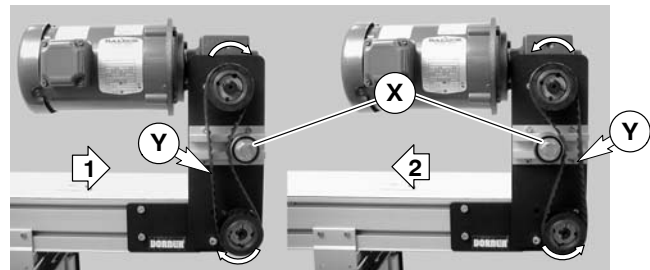

Figure 10
- Wrap timing belt (Q) around driven pulley (M) and drive pulley (J). Install driven pulley (M) onto conveyor shaft.
- Depending on conveyor belt travel (direction 1 or 2), locate timing belt tensioner (X of Figure 10) as shown. Tension timing belt to obtain 1/8" (3 mm) deflection for 6 lb (3 Kg) of force at timing belt mid-point (Y). Tighten tensioner screw to 110 in-lb (12 Nm).
3. Depending on conveyor belt travel (direction 1 or 2), locate timing belt tensioner (X of Figure 10) as shown. Tension timing belt to obtain 1/8" (3 mm) deflection for 6 lb (3 Kg) of force at timing belt mid-point (Y). Tighten tensioner screw to 110 in-lb (12 Nm).
5. Depending on conveyor belt travel (direction 1 or 2), locate timing belt tensioner (X of Figure 10) as shown. Tension timing belt to obtain 1/8" (3 mm) deflection for 6 lb (3 Kg) of force at timing belt mid-point (Y). Tighten tensioner screw to 110 in-lb (12 Nm).